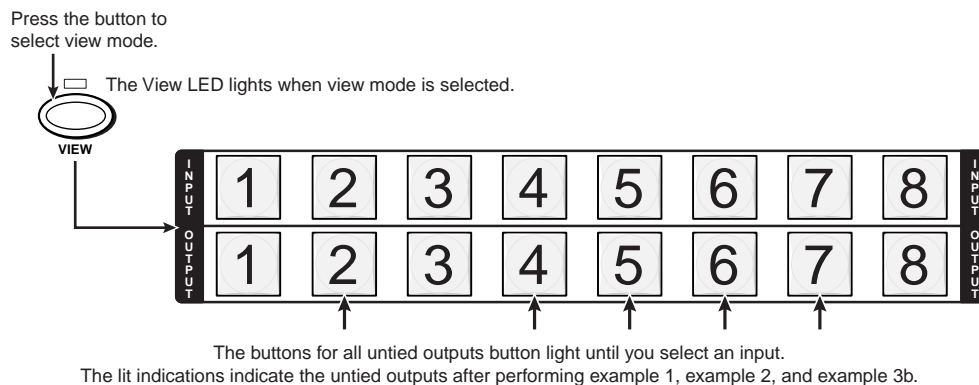

Figure 3-26 — Select view mode
2. Press and release the View button to enter view-only mode. The View LED lights (figure 3-26).